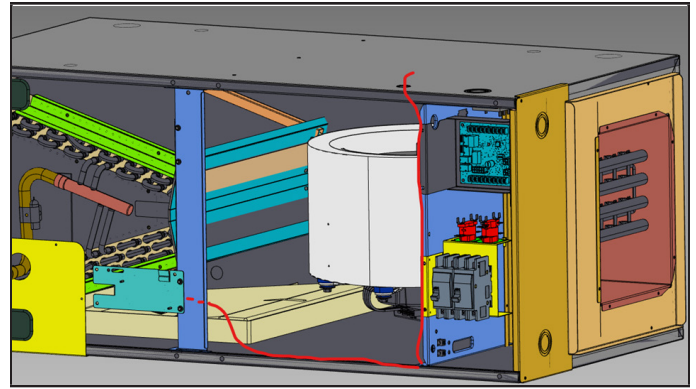

FIGURE 10
- 10 - Open the low voltage hole knockout and route the sensor cable through opening (figure 10).